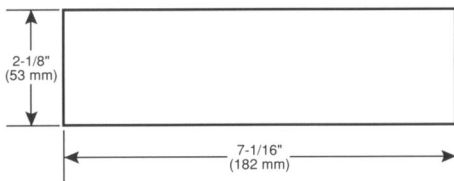

Figure 5. Opening Required
4. Make sure there is a clearance of at least seven inches (178 mm) behind the dash (see Figure 5).
2. Before you mount the CD-303 in your car, check to make sure that the unit is level or that the mounting angle is not greater than 30° to the horizontal (see Figure 5). If the unit has to be mounted at an angle, make sure that the tilt is no more than 30°.